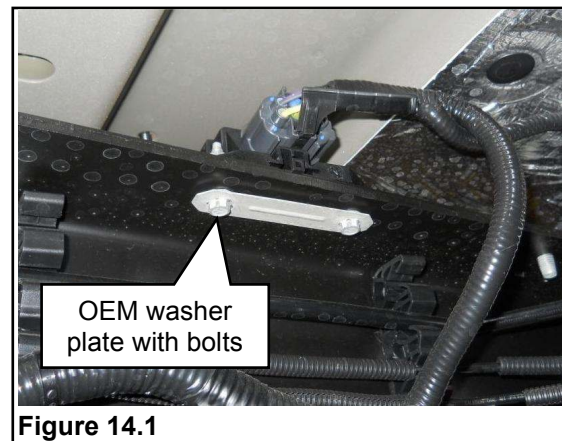

Figure 14.1
3. Remove OEM washer plate and bolts. Install the new EFPR with bracket on top of the frame rail and under the OEM EFPR. Install the new bracket (with new EFPR attached), position the OEM EFPR to the bracket and install the two washer plate bolts through the frame rail, bracket and OEM EFPR. Install two locknuts and tighten to specification. The new EFPR is supplied in hardware kit P12DH-ELECKIT-A. **Figures 14.1–14.2.**